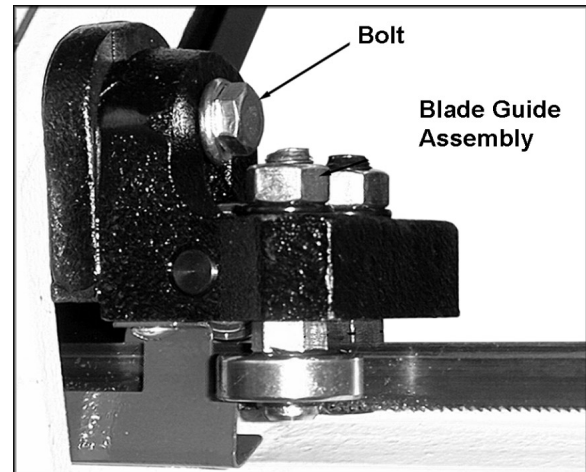

Fig. 16b
4. If there is a gap, loosen the bolt (Figure 16b) on each blade guide assembly and rotate the blade guide assembly until there is no more gap between the square and the ruler.